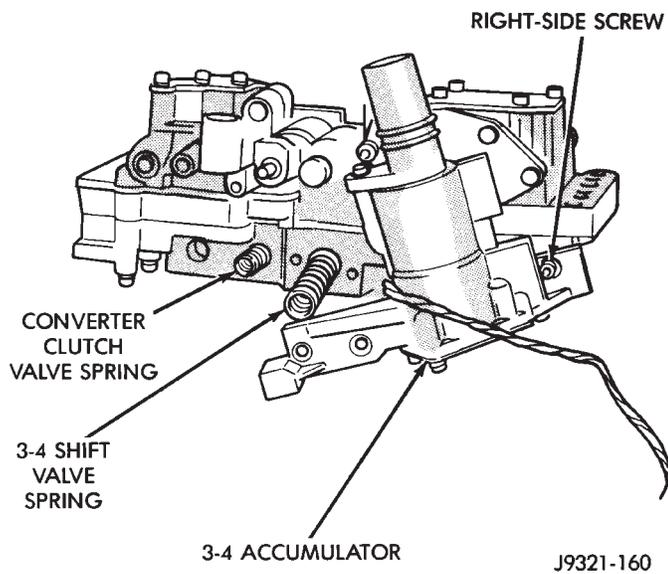
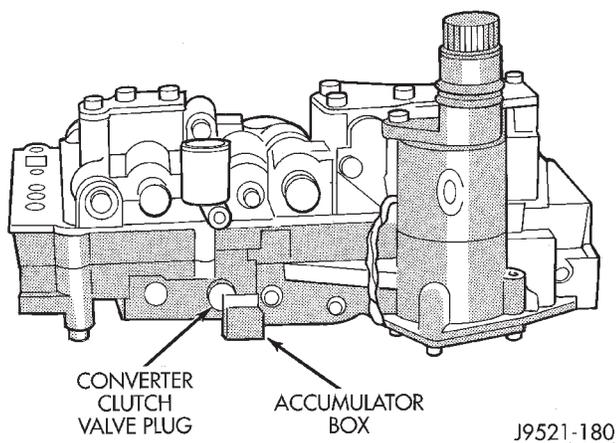

Fig. 108 Converter Clutch And 3-4 Shift Valve Springs
Fig. 109 Seating 3-4 Accumulator On Lower Housing
- (1) Position converter clutch valve and 3-4 shift valve springs in housing (Fig. 108).
- (2) Loosely attach accumulator housing with right-side screw (Fig. 108). Install only one screw at this time as accumulator must be free to pivot upward for ease of installation.
- (3) Install 3-4 shift valve and spring.
- (4) Install converter clutch timing valve and spring.
- (5) Position plug on end of converter clutch valve spring. Then compress and hold springs and plug in place with fingers of one hand.
- (6) Swing accumulator housing upward over valve springs and plug.
- (7) Hold accumulator housing firmly in place and install remaining two attaching screws. Be sure springs and clutch valve plug are properly seated (Fig. 109). Tighten screws to 4 N·m (35 in. lbs.).